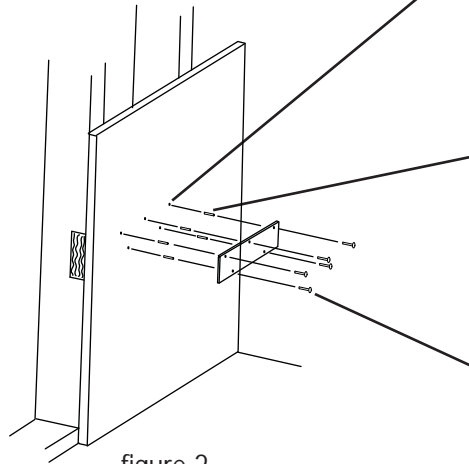

figure 2
- Use the mounting plate as a hole template. Position the metal mounting bracket to the finished wall surface (as shown in figure 2) keeping the flat of the mounting bracket towards the wall and the bottom of the mounting bracket leveled at the recommended height of 16"- 20" (63-51cm) above the floor. (Note: The top edge of the bracket has (3) three holes and this edge must be up). See figures 2 and 3.
- Make sure the mounting bracket is level, then mark the screw holes and remove the bracket. Drill (5) five 5/16" (8mm) screw holes 2-5/16" (60mm) deep.